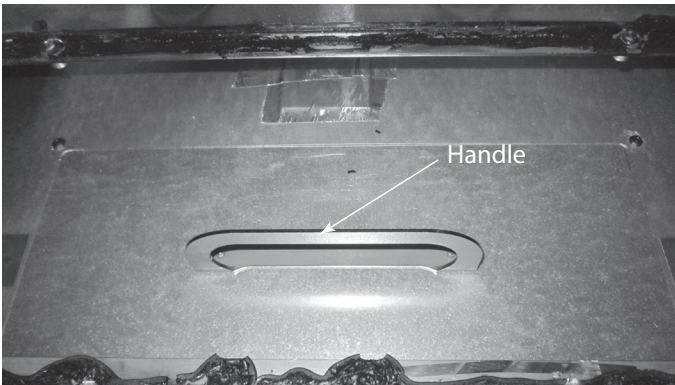

Figure 4.11 Removal of Combustion Cover Screws
3. While holding the handle, remove the four (4) screws at each corner of the combustion cover and fish it up and out of the bottom of the fireplace. See Figures 4.11 & 4.12.